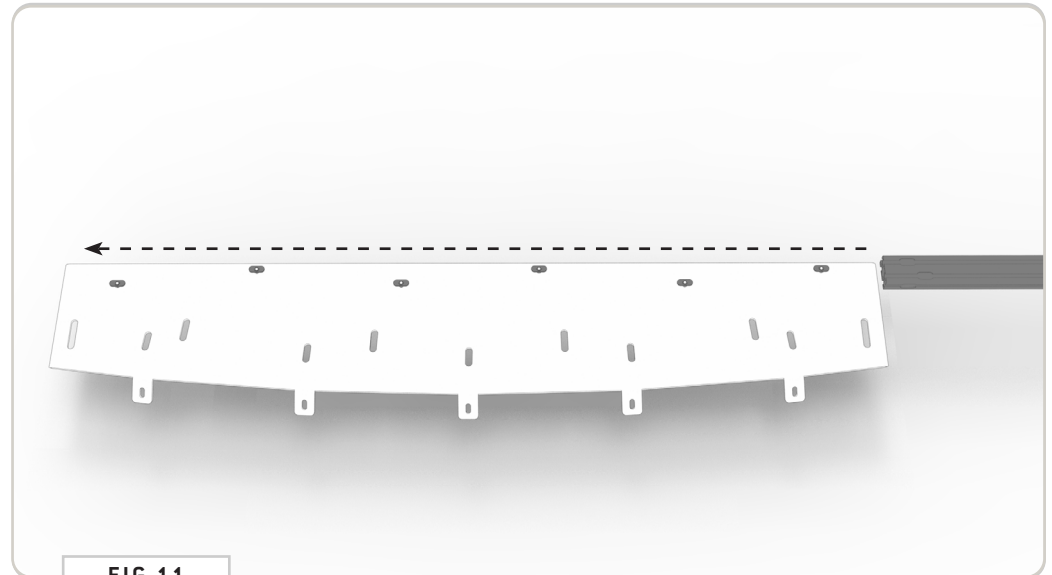

FIG 11
**4.2 Crossbar Install:** Now, slide the Crossbar onto the Crossbar Fairing Bracket. You'll have to straighten each T-Nut as you go to get it to feed into the crossbar correctly (FIG 11).